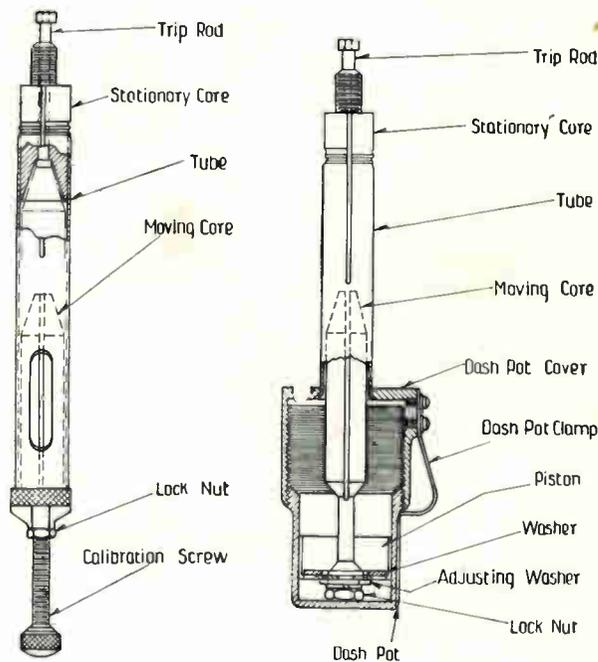

FIG. 19—OVERLOAD RELEASE CORES
**Overload Release (Fig. 19)**—The overload release consists of the part shown in the picture. The moving core is drawn by the magnetic pull up against the trip pin which is pushed up against the trigger. The calibration is varied by